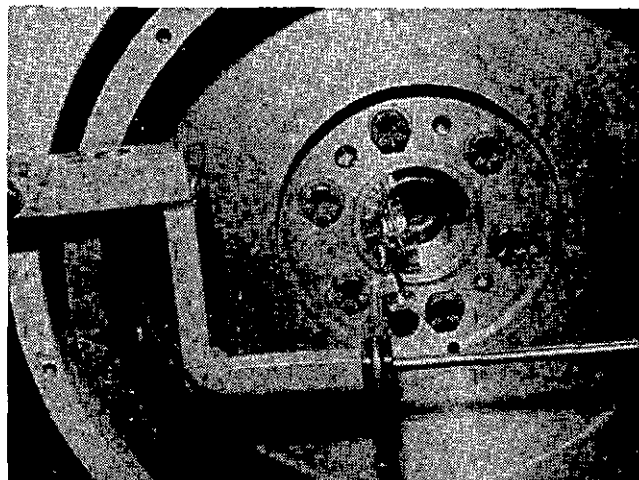

Fig. 14-60 (N114138). Check The Location Of The Bearing Bore.
- a. Install the ST-1325 attachment and .3376050 gauge onto the flywheel housing. Put the trip of the indicator in the position shown in Fig. 14-60.